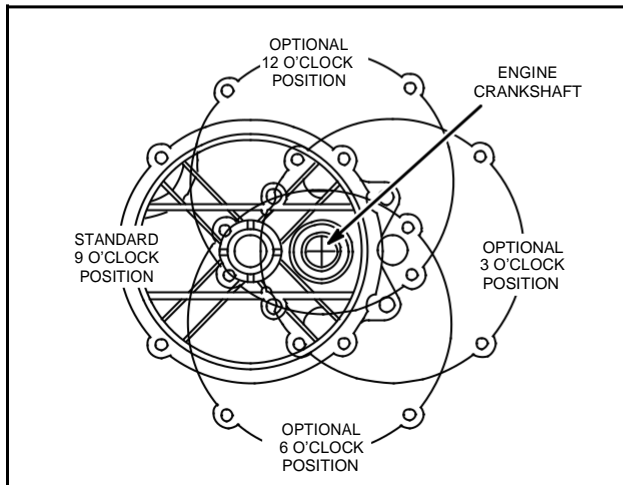

Fig. 133 - POSITIONING BEARING HOUSING ASSEMBLY
**NOTE:** The housing must be installed in the same position as when removed, Fig. 133.